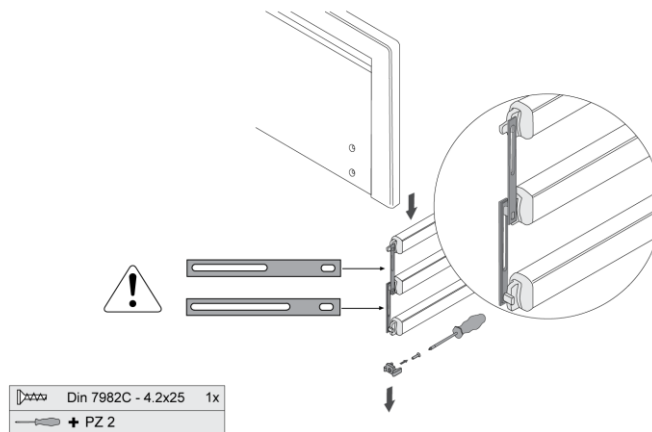

Figure 5.4: Removing of the Trix sideguards
- Remove the Trix sideguards: put the sideguards in their highest position, remove the lock screw at the bottom of the guiding rails, and remove the sideguards by lowering them and taking them out of the guiding rails.(see fig 5.4)